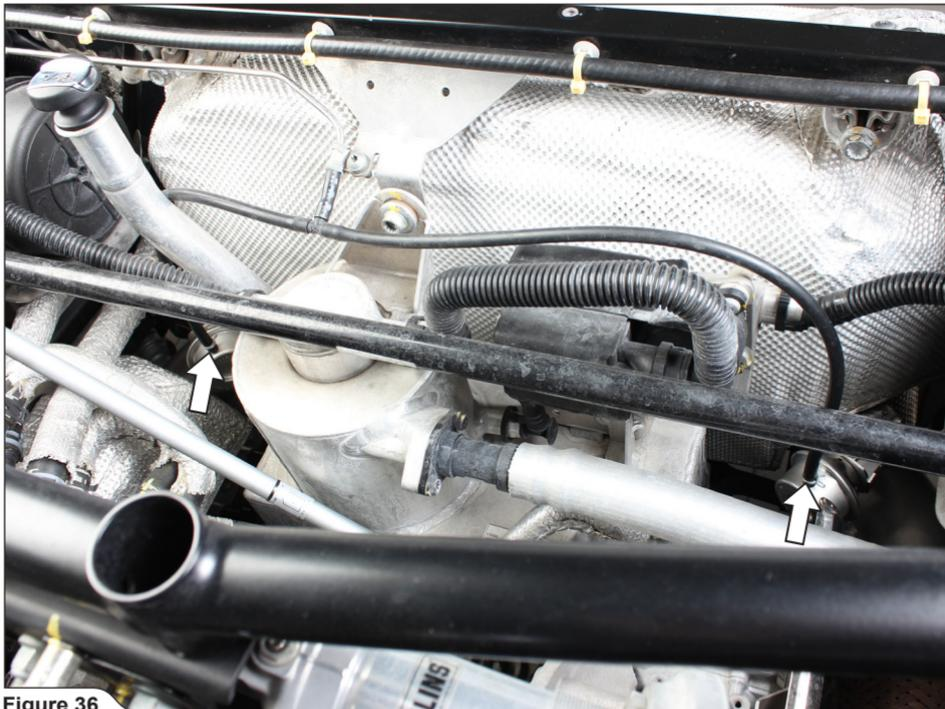

Figure 36
11. Install and secure the stock vacuum tubes onto both exhaust valves' actuators (**Figure 36**).